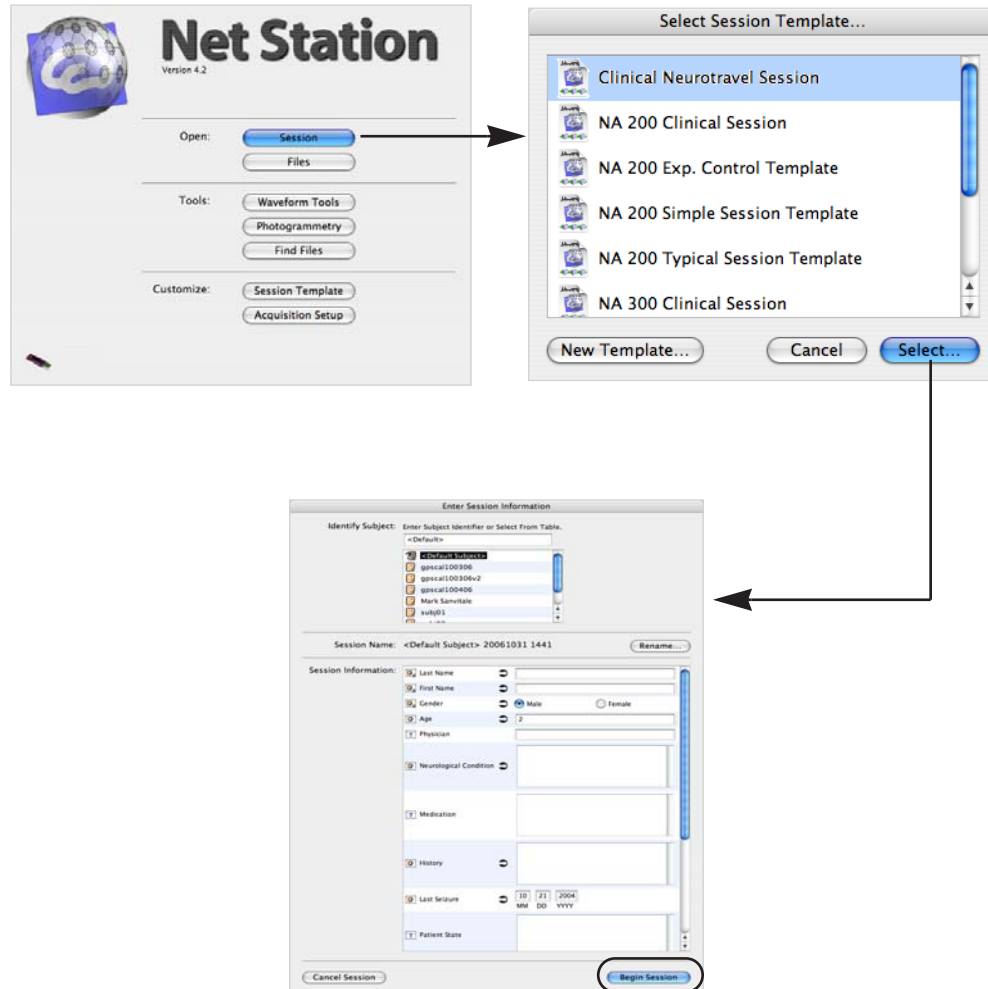

Figure 10-5. Starting an acquisition session
- 3 Fill in the subject information and click the Begin Session button in the Enter Session Information window. (See Figure 10-5.)